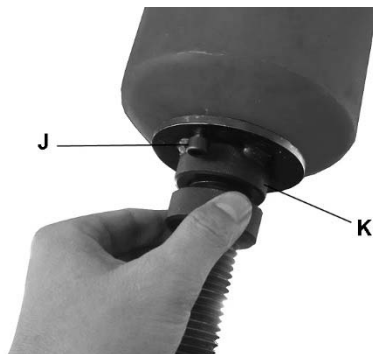

Figure 6
Adjust counterweight by backing out screw (J, Figure 6) and rotating upper and lower collars (K) as needed. When counterweight is at desired position, turn screw (J) until it re-engages counterweight.